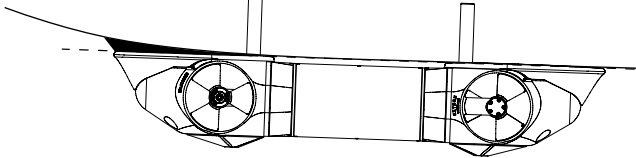

Fig. 37: EXTURN Duplex mounting surface
- The mounting surface for the EXTURN Duplex must be in-plane, if necessary a socket has to be developed accordingly (Fig. 37).